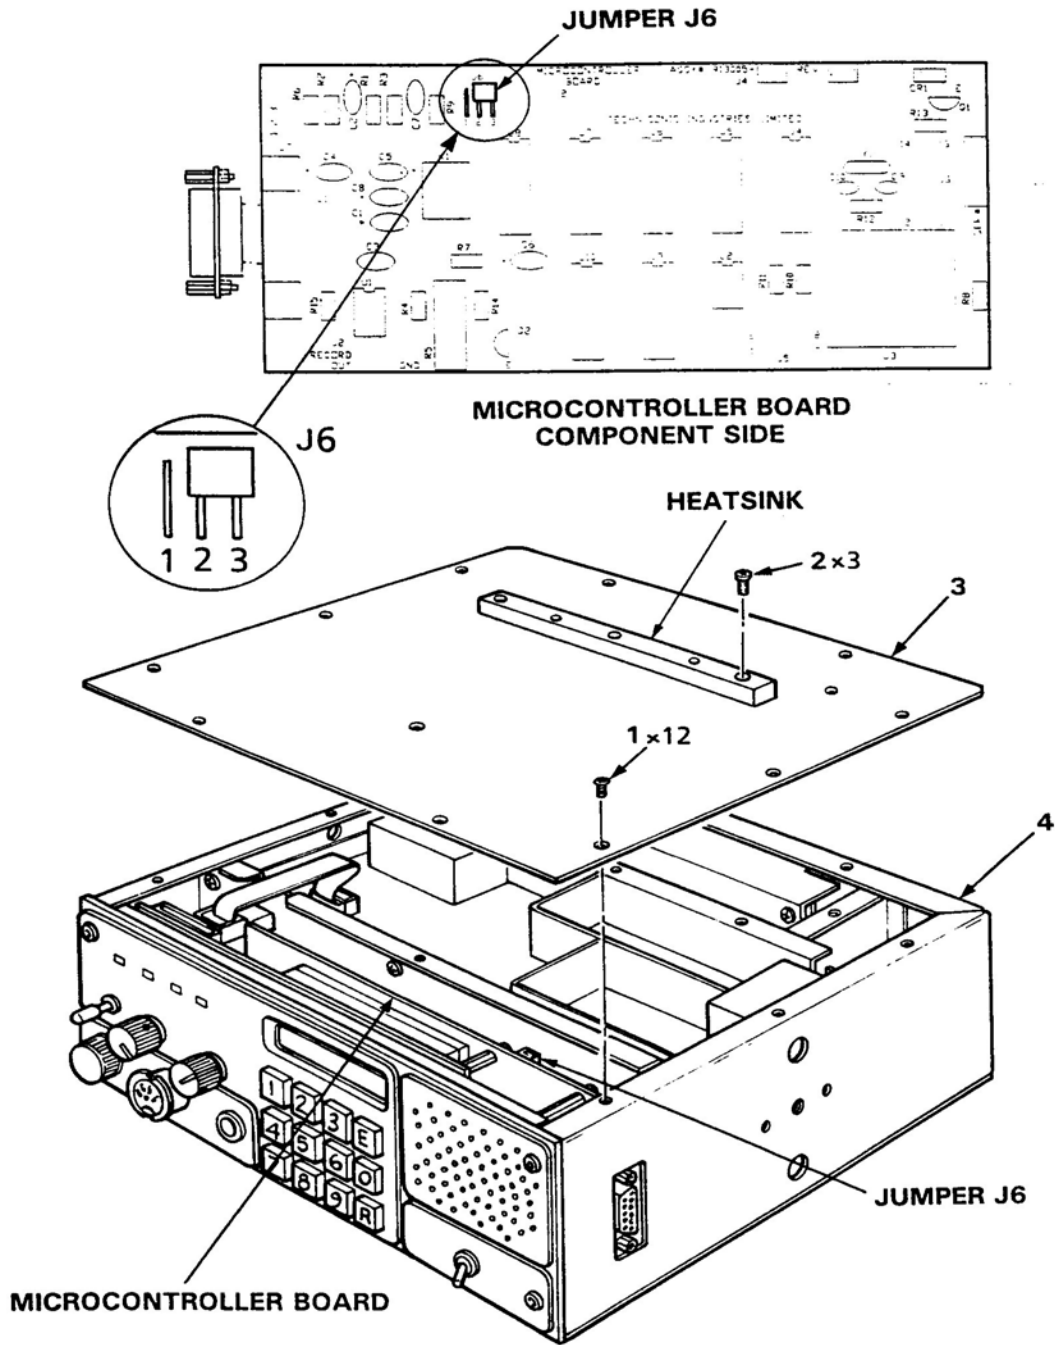

Figure 4.3 Fixed Channel Jumper Locations
- (1) Refer to Paragraph 2.2.1 for Transceiver installation and removal procedures.
- (2) Remove and retain 12 flathead screws (1) and 3 Panhead screws (2) securing transceiver top cover (3) to chassis (4). Refer to Figure 4.3.
- (3) Position Jumper J6 on pin 1 and pin 2 to disable keyboard entry of frequency selection and lock operating configuration.
- (4) Position Jumper J6 on pin 2 and pin 3 to enable keypad frequency selection and unlock operating configuration.
- (5) Position Transceiver Cover (3) on Chassis (4). Ensure that cover holes are aligned with threaded inserts.
- (6) Position 12 flathead screws (1) and 3 Panhead screws (2) through cover (3) holes into chassis (4) threaded inserts. Tighten screws with fingers.
- (7) Tighten screws securing Transceiver Cover (3) to Chassis (4).
- (8) Refer to paragraph 2.2.1 for Transceiver installation and removal procedures.